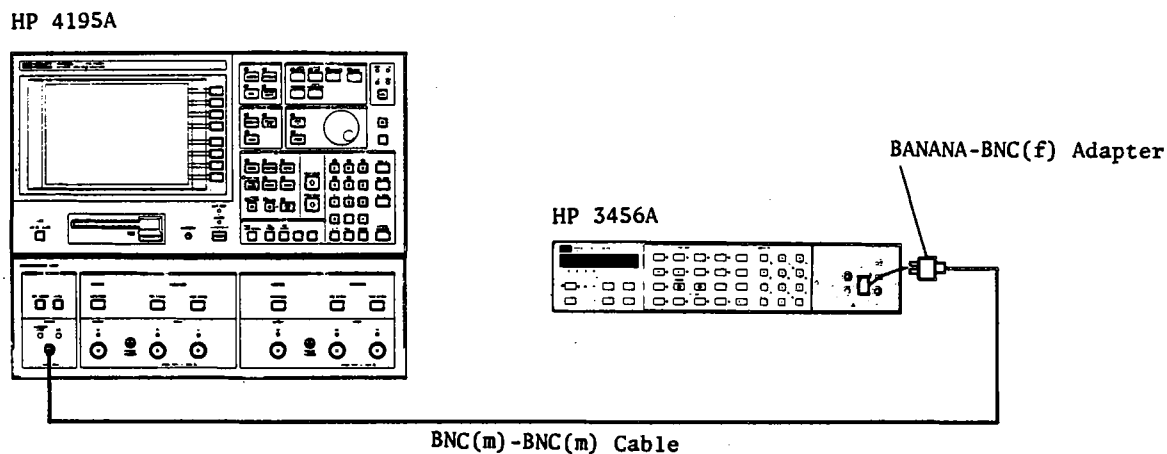

Figure 2-22. DC Voltage Accuracy Test Setup
2. Connect the Digital Voltmeter to the HP 4195A, as shown in Figure 2-22.